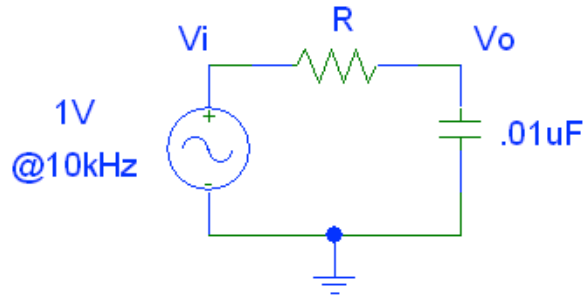

Figure 2: Second RC Network
3. In the circuit in Figure 2, again assume that $v_i(t) = \cos(\omega t)$, such that $f = \omega/(2\pi) = 10\text{kHz}$. Measure the phase shift between v_i and v_o for the following values of R in the RC network shown in Figure 2.